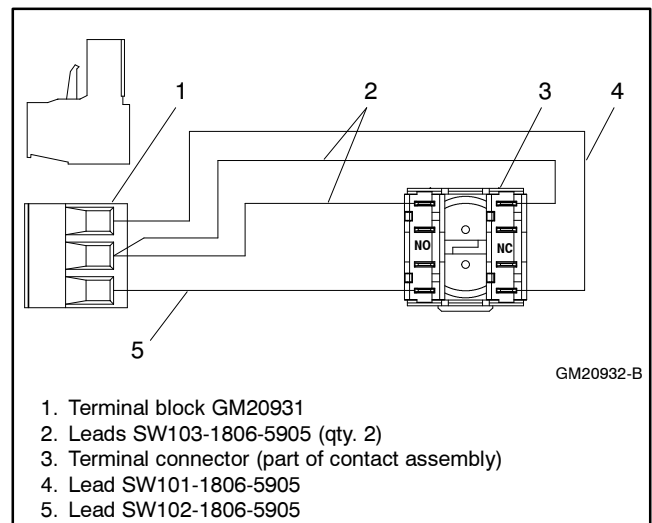

Figure 8 Switch Assembly Electrical Connections (as viewed from back of door)
- 3.1 Connect leads SW101-1806-5905, SW102-1806-5905, and SW103-1806-5905 to the switch assembly as shown in Figure 8.
- 3.2 Connect the corresponding leads to the terminal block (GM20931) as shown in Figure 8.